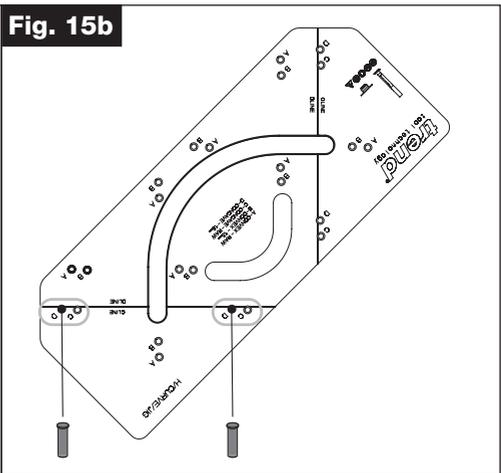

Fig. 16
- Position the jig (**Fig. 16**) by: